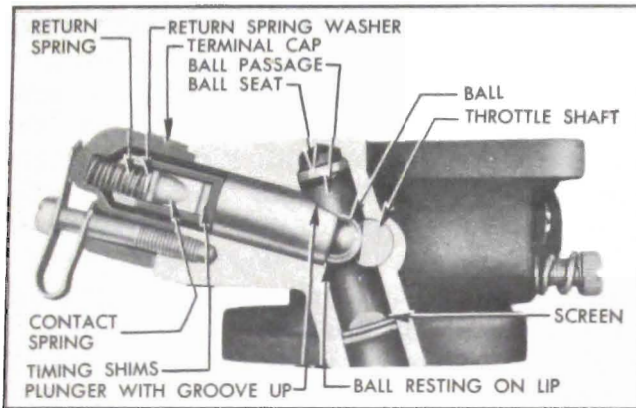
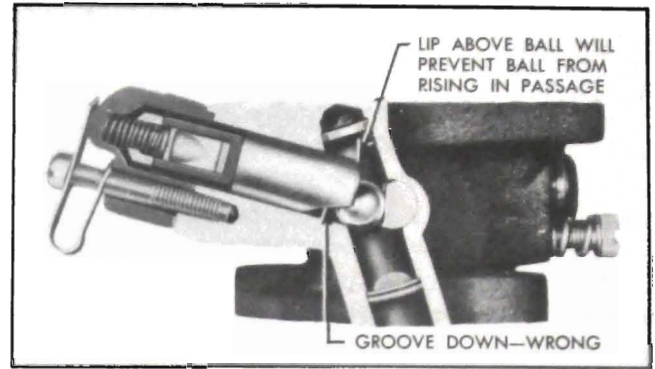

Figure 10-32—Carter Accelerator Vacuum Switch Correctly Assembled
Figure 10-33—Carter Accelerator Vacuum Switch Incorrectly Assembled
8. Place plunger in position with the groove up so that the ball rests on lip at inner end of plunger. See figure 10-32. If the plunger is installed with groove down, as shown in figure 10-33, the ball will be prevented from rising into the ball passage when the engine starts. As a result, the switch will close each time the throttle is opened, causing gear clash at low speeds when the generator is not producing sufficient voltage to open the solenoid relay. If generator should be inoperative, gear clashing would occur at all speeds.
9. Make sure that all timing washers, contact spring, and the return spring washer are in proper position before installing the return spring and terminal cap. Make sure that terminal cap is properly seated. See figure 10-32.